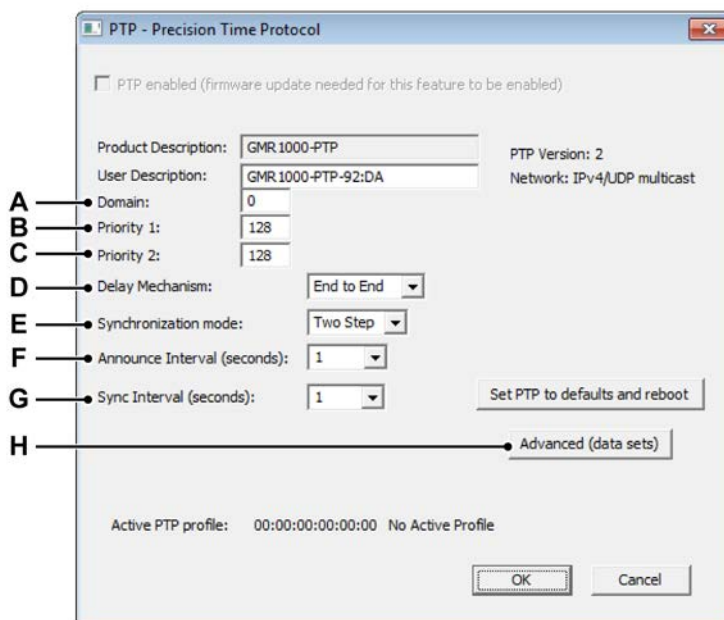
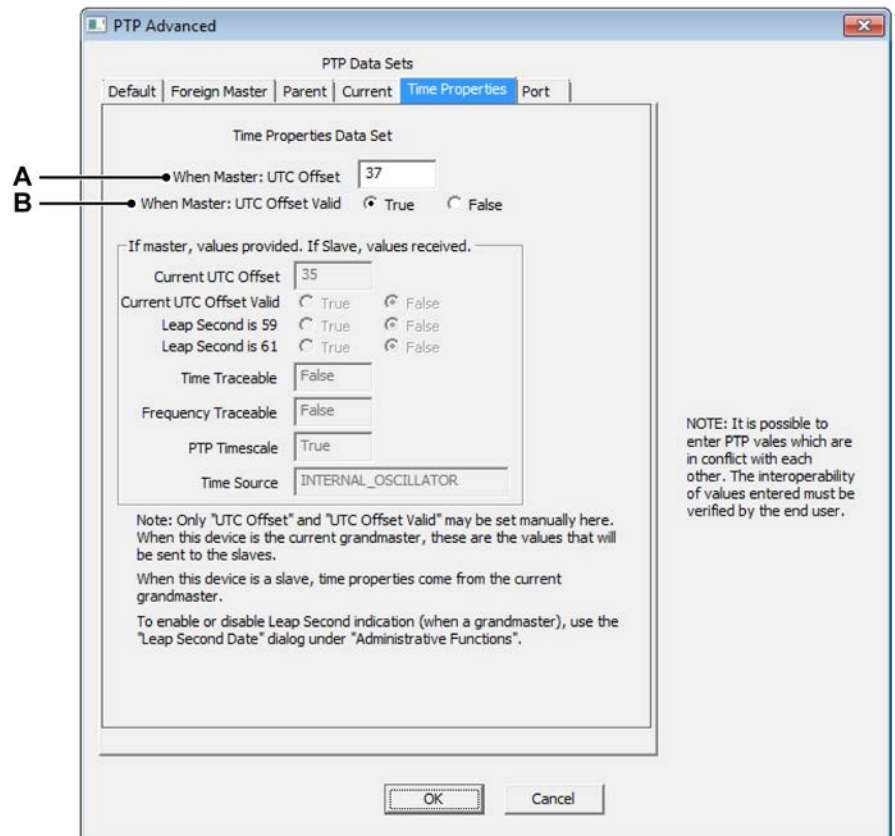

Figure C.61: PTP - Precision Time Protocol
Figure C.62: PTP Advanced - PTP Data Sets/Time Properties settings
- 6 Click the **Advanced (data sets) button (H)** in PTP - Precision Time Protocol window (see Figure C.61) to open the **PTP Advanced** settings (see Figure C.62).